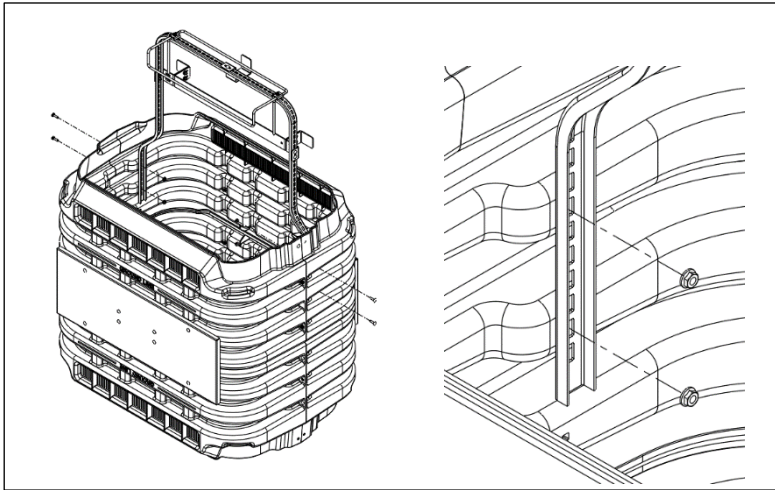

Figure 4 Install Hoop Bracket in New Base
3. Install the hoop bracket in the Z24-BASE using the hardware removed previously (Figure 4, four fastening locations shown). Install hardware through the correct slots in the hoop bracket as shown in Figure 4 to prevent dome fit problems or equipment fit problems.